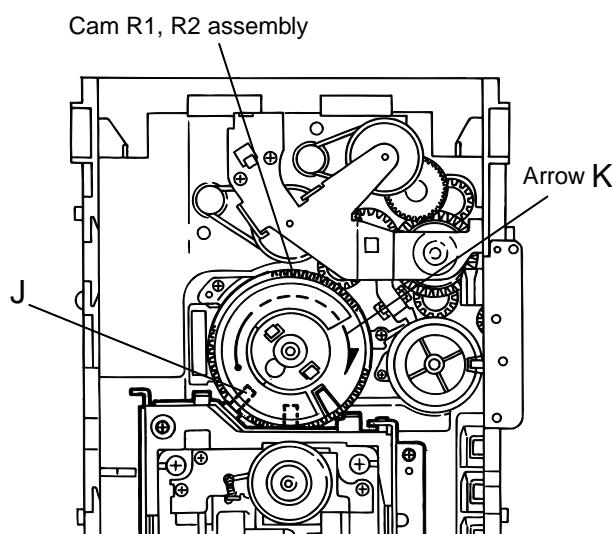

Fig.11
## ■ Removing the DVD mechanism (See Fig.11, 12 )
1. For dismounting only the DVD mechanism without removing the DVD mechanism assembly, align the shaft "J" of the DVD mechanism assembly to the position shown Fig.11 while turning the cam R1 and R2 assembly in the arrow direction "K" .